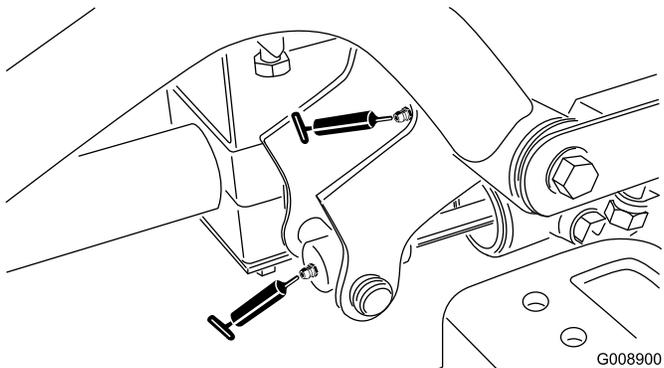

Figure 36
- Right front lift arm pivot and lift cylinder (2) (Figure 36)